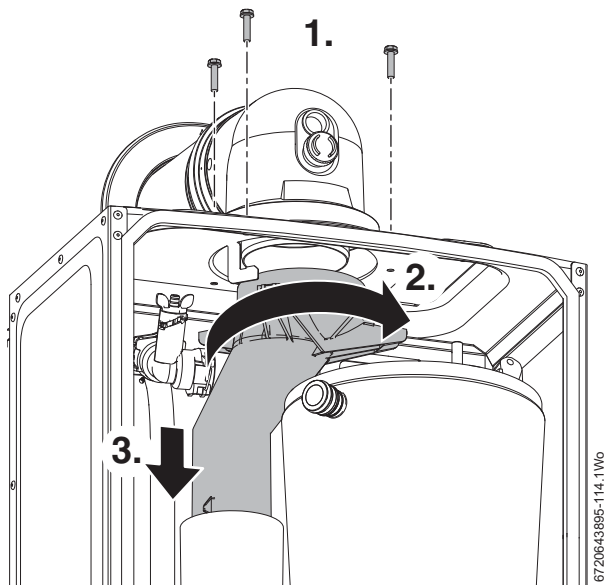

Fig. 106 Upper exhaust assembly
1. Refer to figure 106 and remove the three screws securing the turret to the top of the boiler.